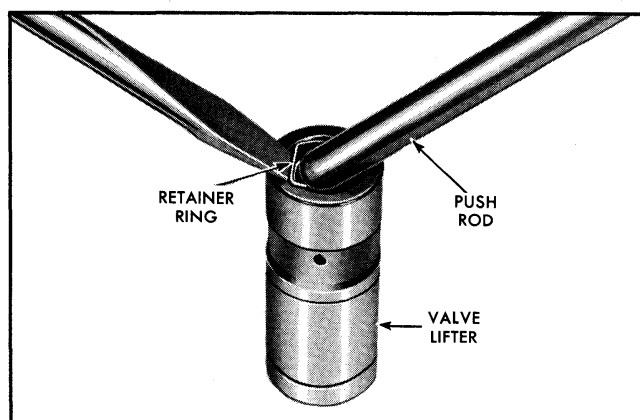

Fig. 6-99 Removing Push Rod Seat Retainer Ring
1. Remove push rod seat retainer ring by holding seat down with push rod while dislodging spring from lifter body with a pointed tool (Fig. 6-99).